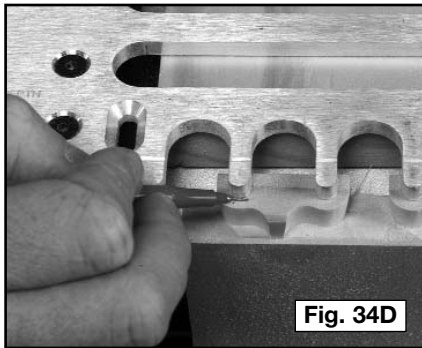

Fig. 34D
Step 5 - Use a pencil to mark the location of the ends of the templet fingers on the wood (Fig. 34D).